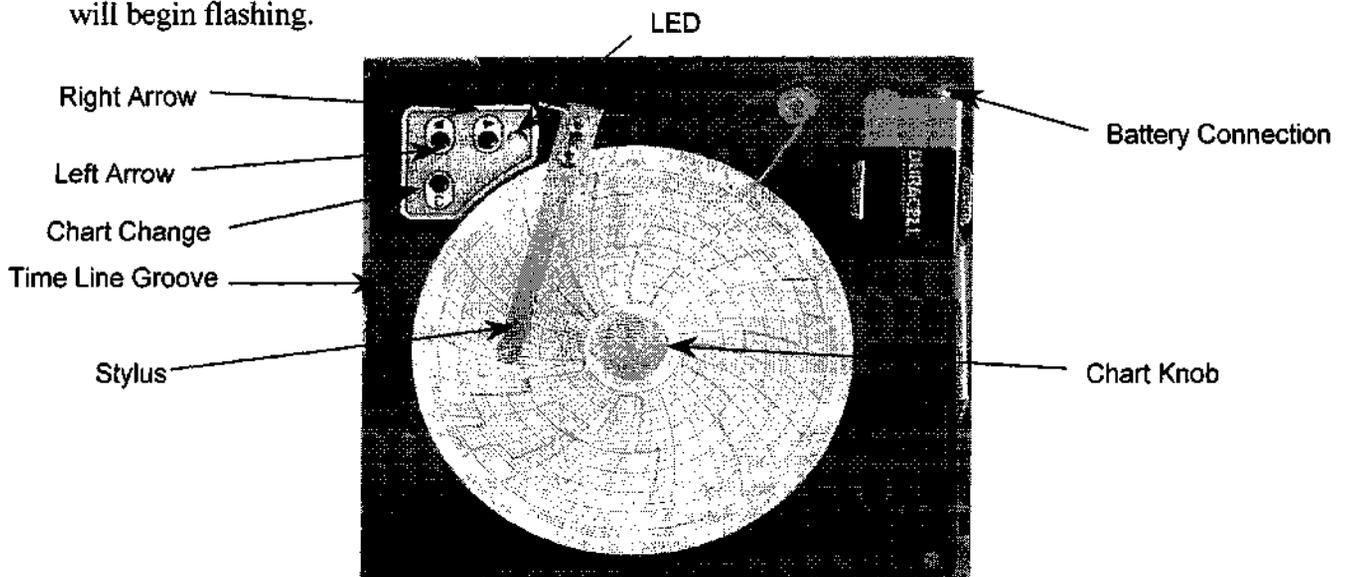

Figure 1
- 1) **Temperature calibration:** If the temperature marked by the chart recorder does not match that of the chamber (once stabilized at setpoint), adjustment is possible using the left and right arrow keys (see figure 1). These must be pressed and held down for five seconds to initiate stylus movement. Continue to hold down until stylus has moved to the correct temperature. If neither button is pressed for 5 seconds the new offset will take effect and the recorder will return to normal operation.
- 2) **Changing the chart paper:** Press and hold the “C” button. When the stylus begins to move toward the left, release the button. Wait until the stylus has moved to the edge of the chart then remove the old chart paper. Position the paper so that the correct time line coincides with the time line groove (see fig 1). Re-attach the chart knob and screw it securely against the chart.
- 3) **Battery Backup:** Install a 9 volt battery as shown in figure 1 and connect the lead. This battery allows the recorder to continue to function normally for approximately two hours in the event of a power failure. The light on the face of the chart recorder remains a constant green color indicating the battery is good. If the battery becomes weak and needs to be replaced, the light will begin flashing.